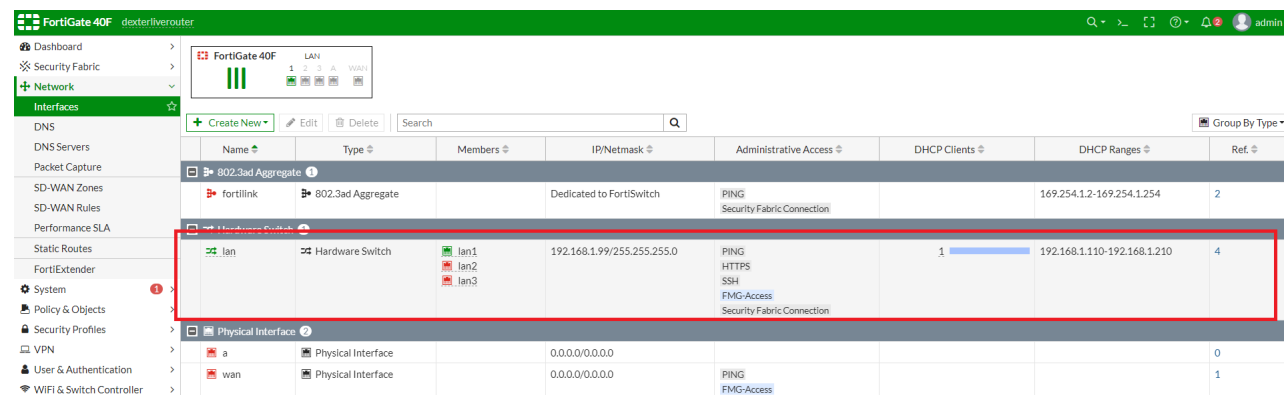

Figure 22
15. Begin configuring the LAN interface by double-clicking "lan" (Figure 22).